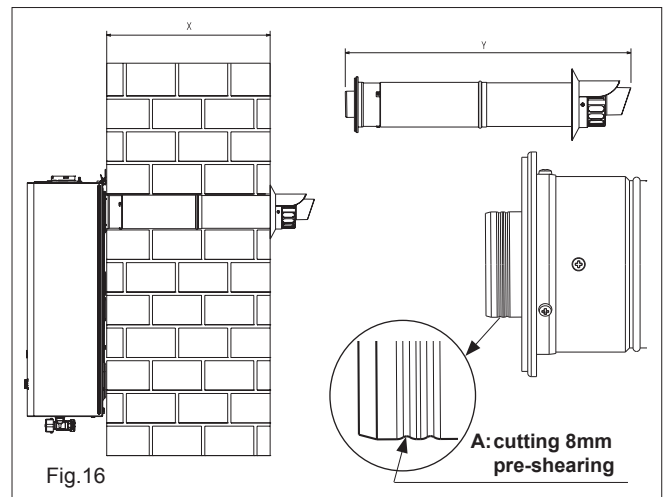

Fig. 16
4.5.1.2 FITTING THE REAR FLUE (fig. 16) (rear flue outlet only)
NOTE: The inner 60mm pipe of the rear flue terminal must be cut by 8mm at the point indicated (fig. 16 pos. A).